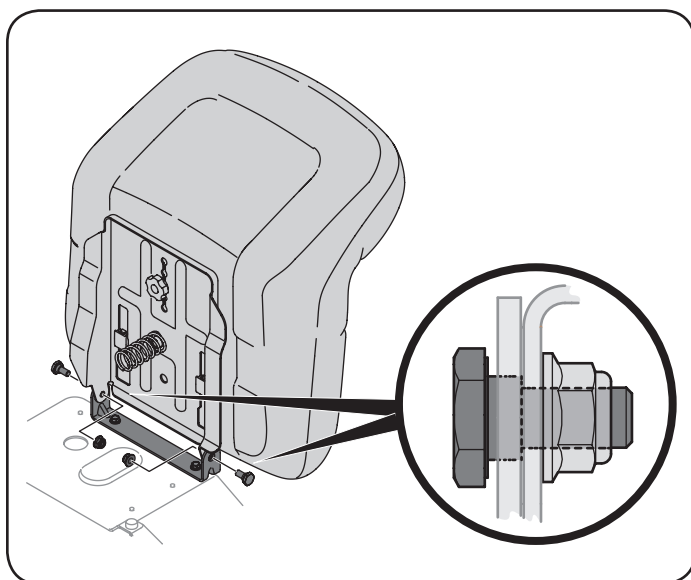

Figure 7
6. Install the two shoulder bolts and lock nuts removed from the seat mounting bracket in Step 1. See Figure 7.